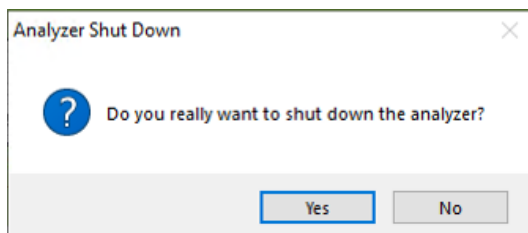

Figure 28 - Shutdown Confirmation Pop-Up Dialog
If you have trouble turning off the analyzer software, do not use the Windows Task Manager to kill the processes. Instead, double-click on the “Stop Instrument” icon in the Diagnostics folder on your desktop and select the default option to stop the software with the drivers running. See Figure 28 below.
2. A window will pop-up (Figure 28) prompting the user to confirm the shutdown. Once confirmed, the analyzer software and hardware will turn off. (Note: If three options are given on an older instrument, choose the “For **Shipment**” option.)